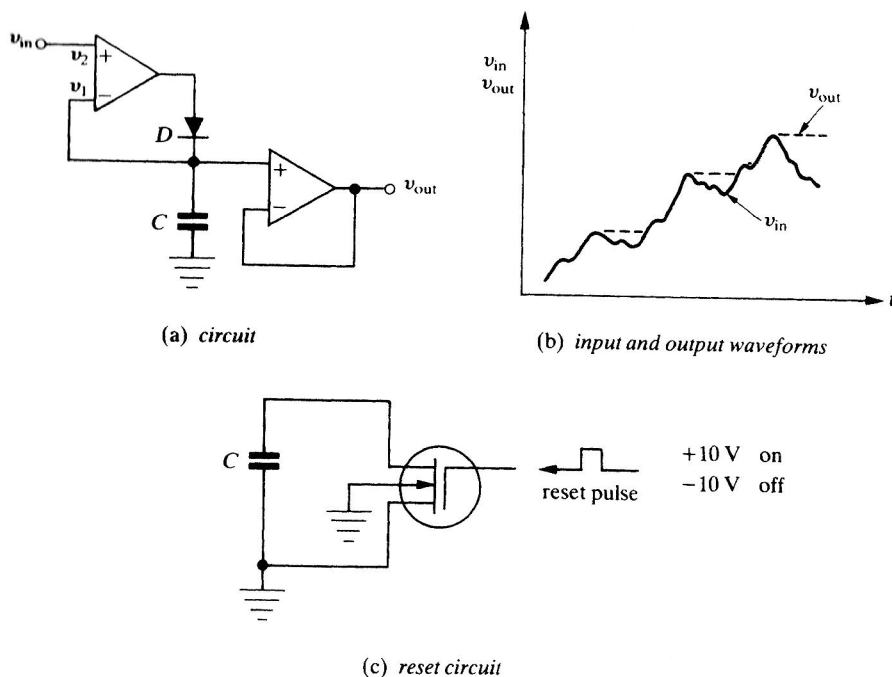

FIGURE 10.16 Peak detector.
If we add a high-quality capacitor to the output of the ideal half-wave rectifier of Fig. 10.13(b), let  $R \rightarrow \infty$ , and add a voltage follower, we have a peak detector as shown in Fig. 10.16(a). The output voltage will be stored
If the input varies with time, then the output will rise to the most positive value of the input and hold there at the peak value until a more positive input comes along, as shown in Fig. 10.16(b). Notice:
3. The circuit can be reset by shorting out the capacitance. An FET switch can be used as shown in Fig. 10.16(c), but the switch must have an extremely high resistance when off. Thus, a MOSFET device would be appropriate. The positive reset pulse turns the MOSFET on and discharges the capacitor.